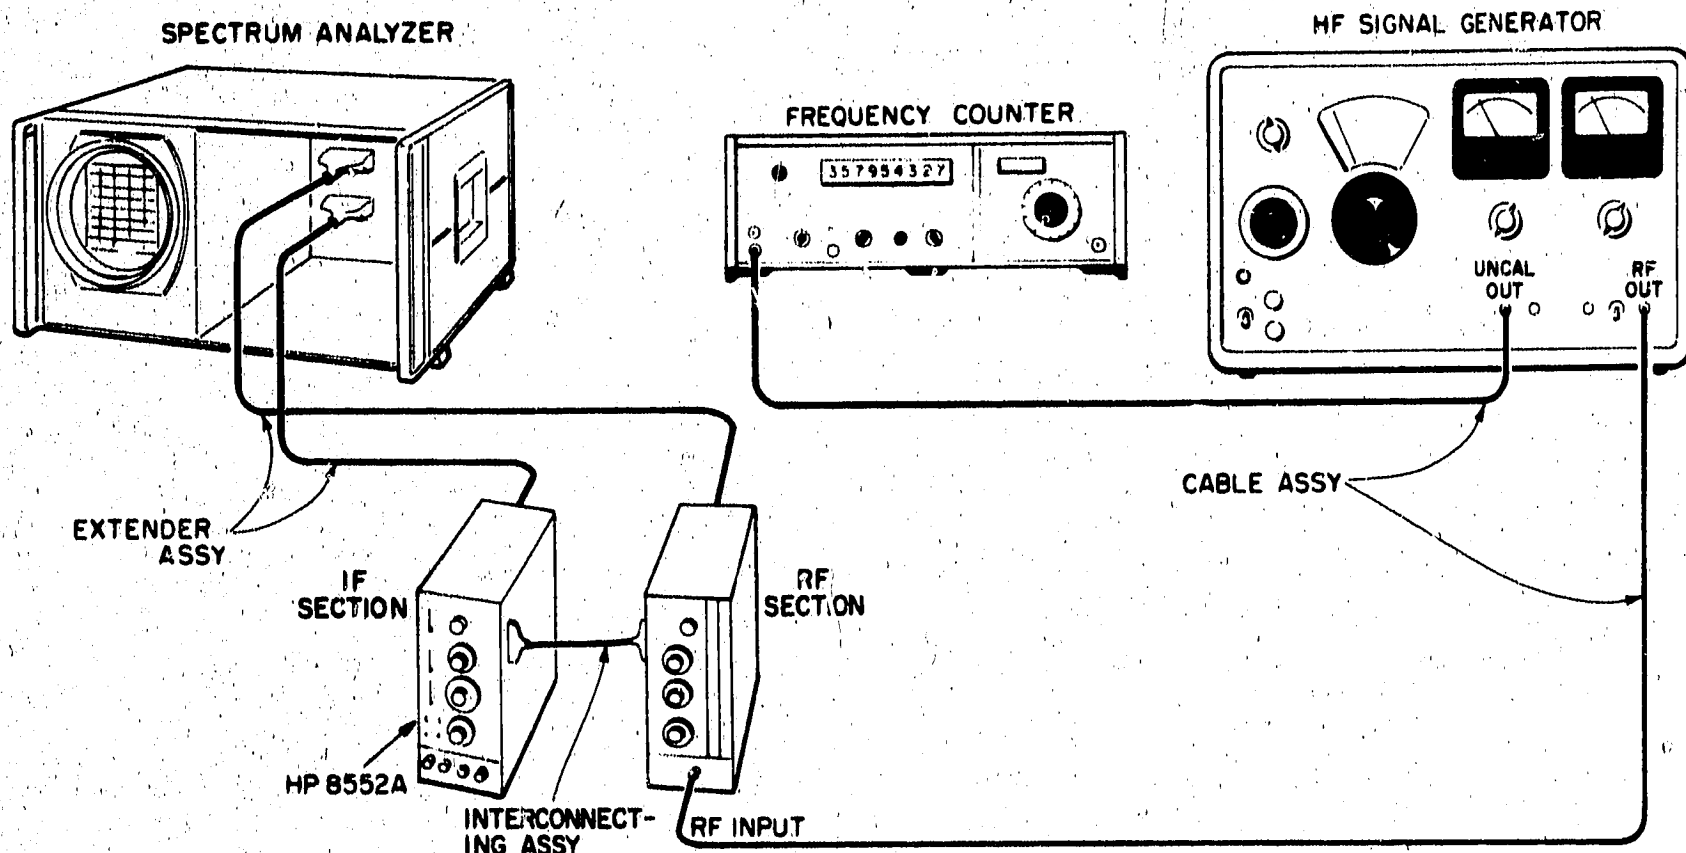

Figure 5-7. 3 MHz IF Bandwidth Checks: 100, 30, 10 kHz Test Setup
1. Connect the test setup in Figure 5-7 and make the following control settings: